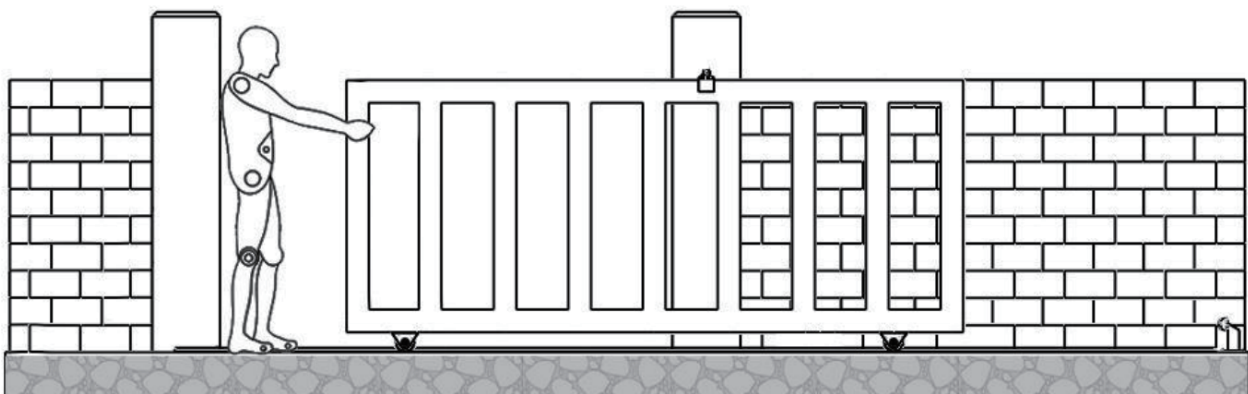

Fig 5
If your gate needs to open from the other direction (to the left, refer to Fig 4 ) your motor needs to be mounted on the left-hand side as shown, you will need to switch 2 wires of motor (Fig 14) at random. And swap over two magnets positions (Fig 5).
- ◆ Be sure that the opener is installed in a level and paralleled position and is properly secured and the gate can be moved smoothly push or pull by hand before installing motor(Fig 5).